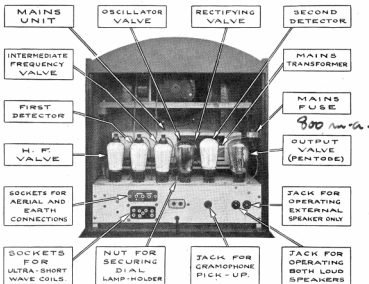

Fig. 3
All Kolster-Brandes Radio Products are thoroughly tested and inspected before leaving the factory and provided they are not subsequently tampered with or damaged in transit, they may be relied upon to give satisfactory and reliable service. In the unlikely event of any form of trouble developing after a period of use the receiving and rectifying valves should be carefully examined to ensure that any of them have not become defective or deteriorated in use. A special fuse is provided to protect the receiver and valves in the event of a temporary overload occurring on the mains. The position of this fuse in the receiver is clearly shown in Fig. 3 and if the set should fail to operate this may be due to the fuse having blown. **A new fuse should not be inserted in the fuse clips without first consulting your dealer,** as the failure of the original fuse is due to a defect having developed in the receiver the second fuse may be blown also.
4. Insert the receiving valves  $\dagger$ . Six valves are supplied for use in the positions indicated below and to serve the purposes specified in Fig. 3. Take care that the valves are inserted in the correct holders. The positions are indicated by numbers from left to right when looking at the back of the receiver.
5. Connect the three flexible leads to the terminals on the tops of the three screened grid valves (S4/VB), as shown in Fig. 3, and also the flexible lead to the side terminal on the pentode output valve.
Two jacks are provided at the back of the receiver for the connection of an additional speaker (see Fig. 3). The external speaker may be a balanced armature type of instrument of good design, such as the Kolster-Brandes K-B. 72 Cabinet or Chassis Models, or a moving coil speaker of either the permanent-magnet or electro-dynamic types, providing the effective impedance of the speaker is not lower than approximately 8,000 ohms, but if of the electro-dynamic type means must be provided for supplying the necessary energising current for the field winding.
The external speaker (or extension lines if the external speaker is in another room) should be connected to a standard connecting plug which should be plugged into one of the jacks according to whether it is desired to operate both speakers simultaneously or the external speaker only. (See Fig. 3).
The lamp-holder is mounted on a metal strip which runs beneath the mains unit and is secured in position by the milled-head nut (See Fig. 3). To change the lamp, if necessary, unscrew the nut when the metal strip carrying the lamp-holder can be lifted and withdrawn.
A jack is provided at the back of the receiver to enable a pick-up to be connected for the electrical reproduction of gramophone records. (See Fig. 3.)